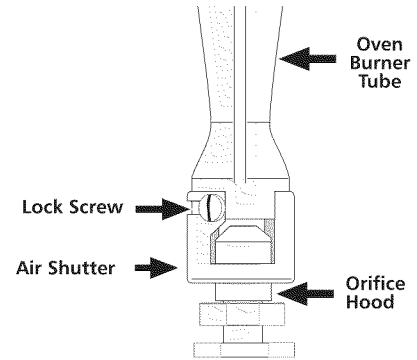

Fig. 20
- If adjustment to the air shutter is necessary, locate the broiler burner air shutter (See Fig. 20), loosen shutter lock screw, and adjust to obtain optimum flame. This will normally be completely open for LP/Propane gas. If the flame is yellow in color, increase the air shutter opening size. If the flame is a distinct blue, but lifting away from the burner, reduce the air shutter opening size. Tighten the shutter set screw.